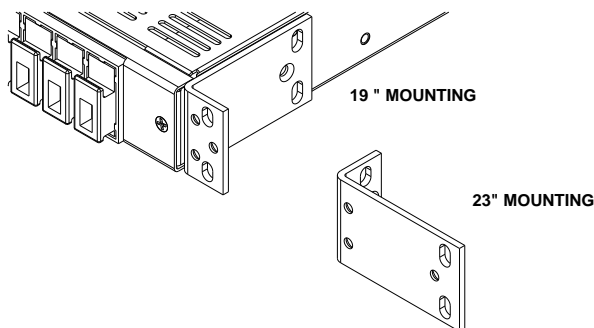

Figure 4.2.1
4.2. Once the panel is unpacked, verify that there are three mounting brackets. The bracket with the vertical slot is used for both 1" and 1-1/4" hole spacing applications. There will be two brackets with horizontal slots, one will fit 1", and the other 1-1/4", hole spacing. All three brackets are universal for 19" and 23" rack mount spacing (see figure 4.2.1) and can be mounted so the panel can be installed for a flush mounting or 5" offset. Adjust the position and orientation of the correct mounting brackets on the fuse panel, such that it will fit the rack you wish to mount the panel in. Please see drawing 1123-19 on page 6 for mounting bracket configurations.